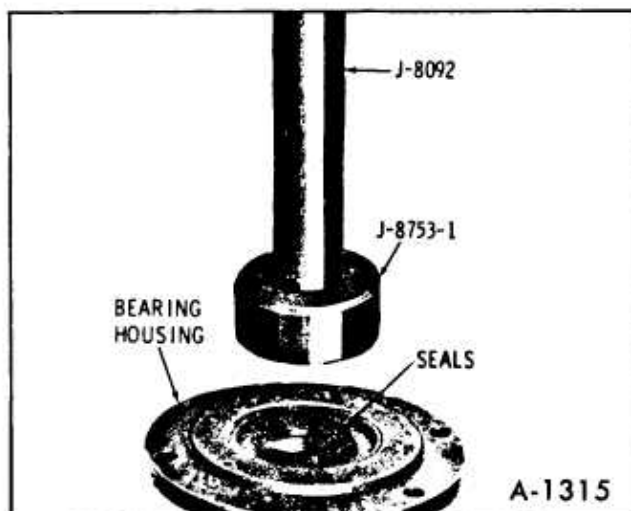

Figure 27-Removing Oil Seals From Pinion Bearing Housing
15. Remove the two oil seals from the pinion bearing housing as shown in Figure 27.